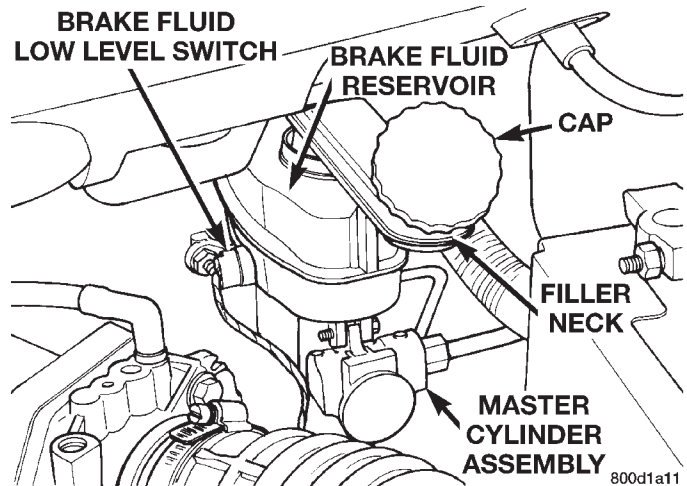

Fig. 178 Fluid Level Sensor Electrical Connection
(1) Remove wiring harness connector from brake fluid reservoir level sensor (Fig. 178).
(5) Connect the vehicle wiring harness connector to the brake fluid level sensor (Fig. 178).